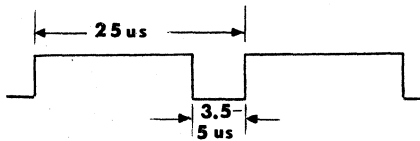

Figure 5-2
5. Q3/Q4 drive current should be approximately 300mA. Current pulse OFF time should be from 3.5 to 5.0 usec (see Figure 5-2).